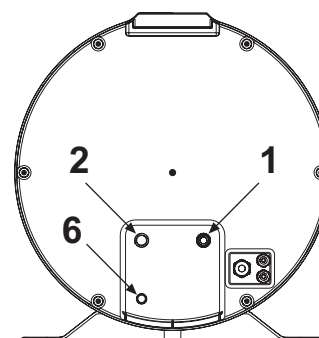

fig. 33
- Connect the cold water supply line and the outlet line to the appropriate connection points (fig. 33).